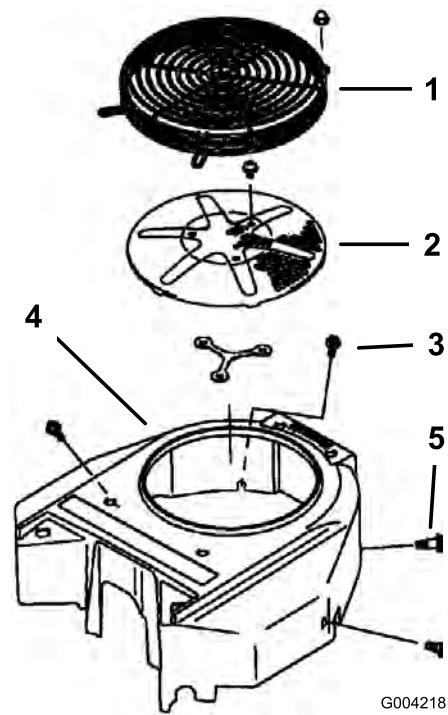

Figure 42
3. Remove the air intake screen, recoil starter and fan housing (Figure 42).
5. Install air intake screen, recoil starter and fan housing (Figure 42).